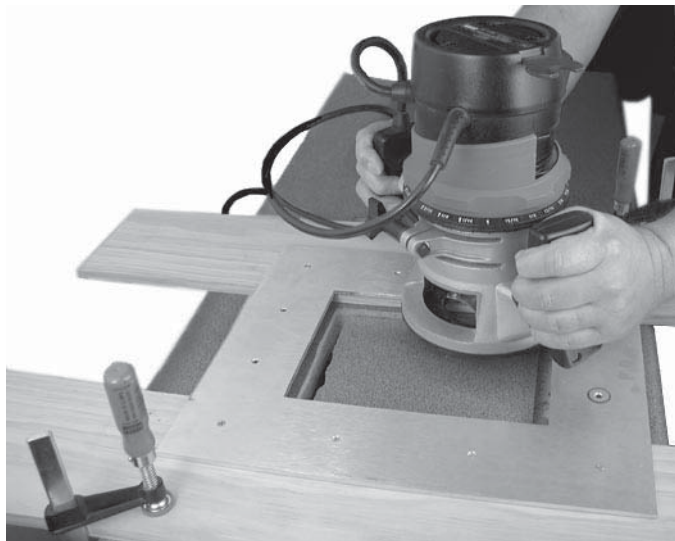

Figure 2-2 — Cutting the opening with a router
3. Once the template assembly is positioned properly, secure the assembly to the table with C-clamps (figure 2-2).